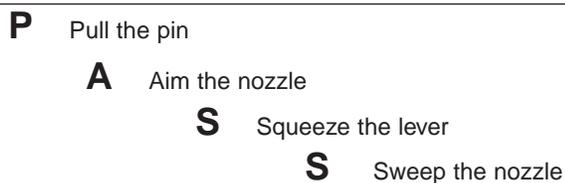

Figure 11.3 Learn the PASS procedure for using a fire extinguisher.
- One component of fire-extinguisher training is the PASS procedure (Figure 11.3):